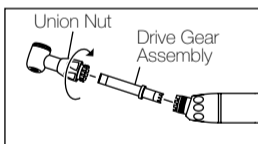

Fig. 6
- ① Loosen the union nut and remove the head from the sheath.
- ② Pull out the drive gear assembly from the head. (Fig. 6)